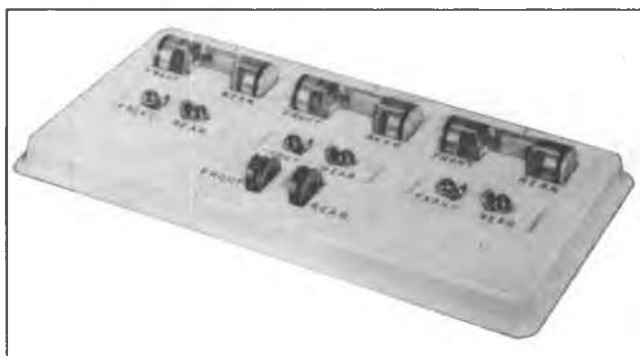

Fig. 33--A-6 Parts Tray
Use Parts Tray J-9402 (Fig. 33) to retain compressor parts during disassembly.
7. Remove and examine piston balls, and if satisfactory for re-use, place balls in No. 1 compartment of Parts Tray J-9402 (Fig. 33).